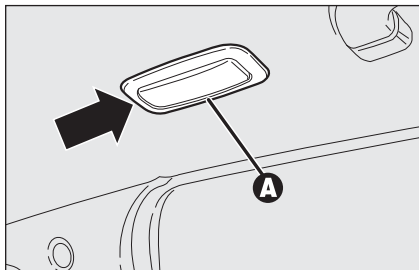

fig. 44
- remove the ceiling light **A-fig. 44** working in the points shown by the arrows;